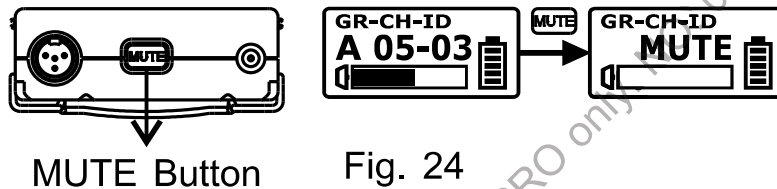

Fig. 23
(A) GR (Group) – CH (Channel) – ID (ID Code). Fig. 23:
- (1) Group / Channel / ID Code messages are displayed only and cannot be changed.
- (2) To change Group / Channel / ID Code, do it at the receiver and then press ACT button to sync.